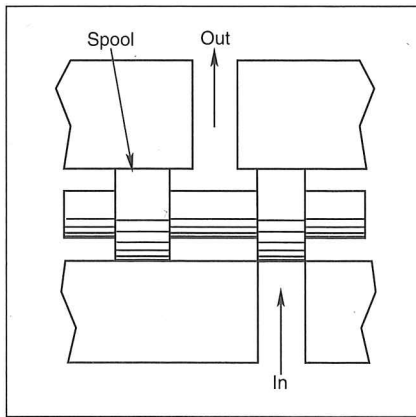

Fig. 9-11 — The spool sliding within the sleeve permits or blocks flow.
**Spool mechanisms.** These devices, Fig. 9-11, slide inside a sleeve, controlling flow between two ports. The device is used in both hydraulic and pneumatic valves. The device calls for a short stroke, exhibits low friction, requires little actuation force, and is suitable for high pressures. Because these valves depend on